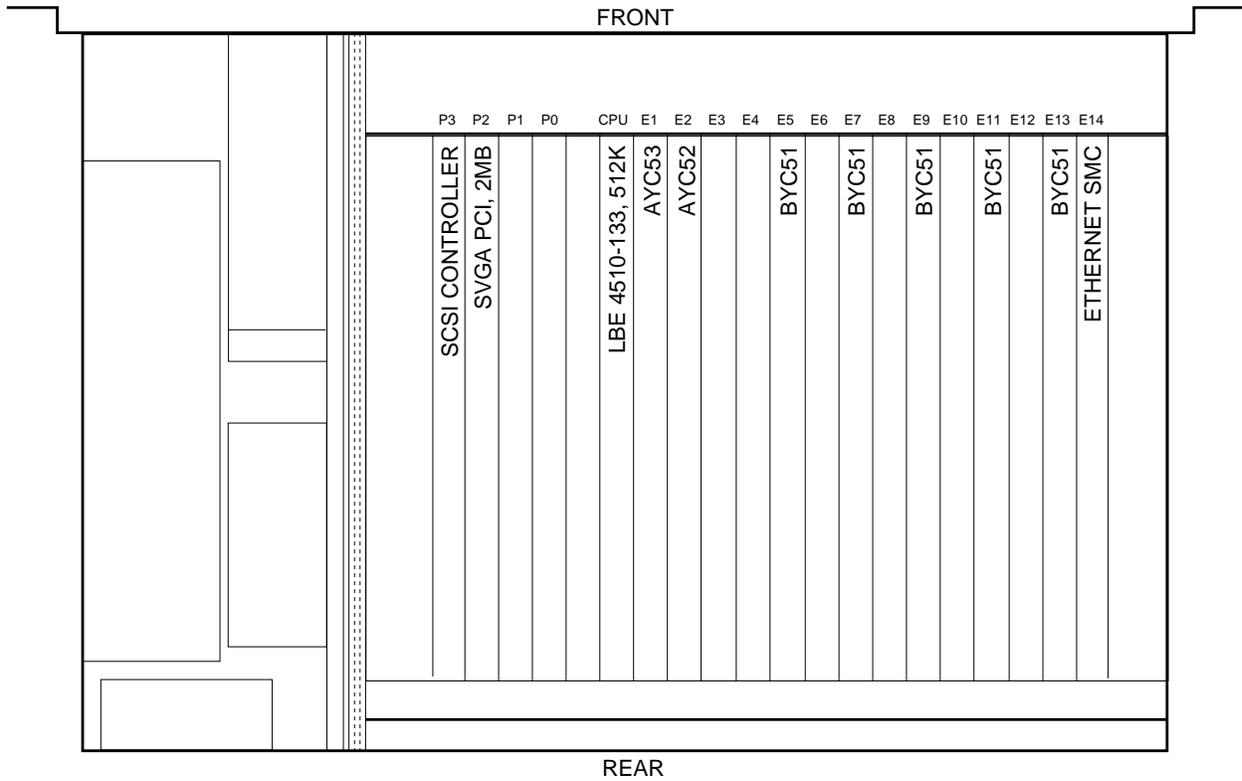

Figure 21. CDSU-II (Top View)
- CDSU-II (Top View) (Figure 21)